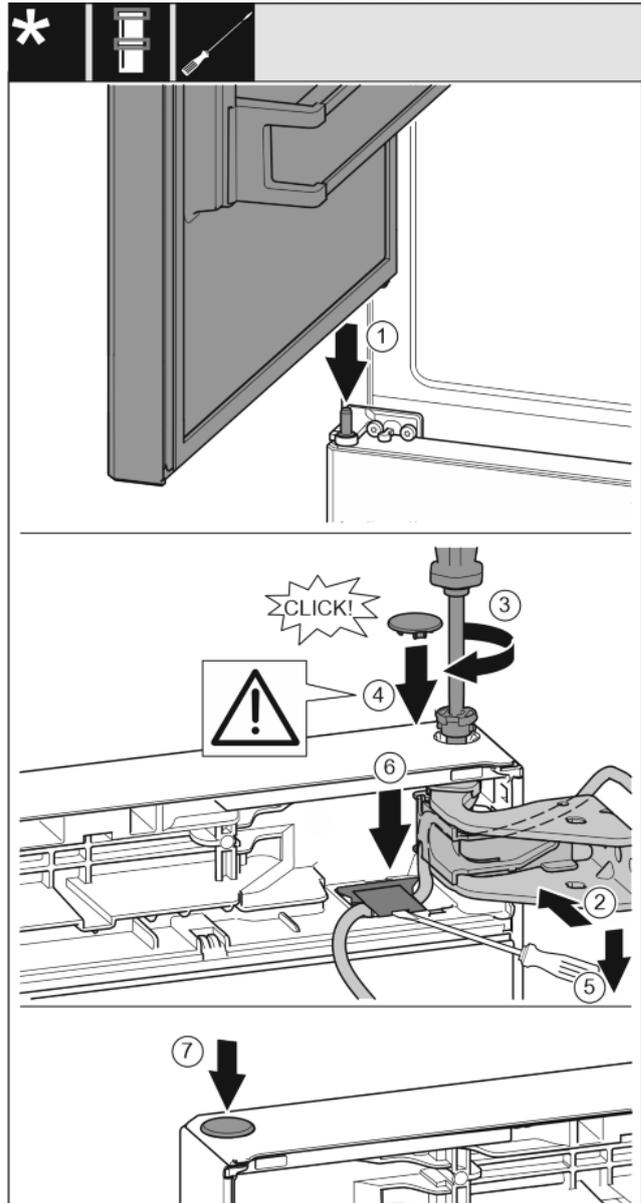

Fig. 33
- ▶ Place the upper door on the centre bearing pins Fig. 33 (1)
- ▶ Align the top of the door with opening in the bearing bracket. Fig. 33 (2)
- ▶ Insert the bolt and tighten with a T15 screwdriver. Fig. 33 (3)
- ▶ Fit the protective cover to protect the door: Insert the protective cover and check that it is flush to the door. If not, insert the bolt fully. Fig. 33 (4)
- ▶ Lift up the cover with a screwdriver and pull it out. Afterwards, place the cable underneath. Fig. 33 (5)
- ▶ Place on the cover again and press it down until it latches into place. Fig. 33 (6)
- ▶ Insert the plugs. Fig. 33 (7)